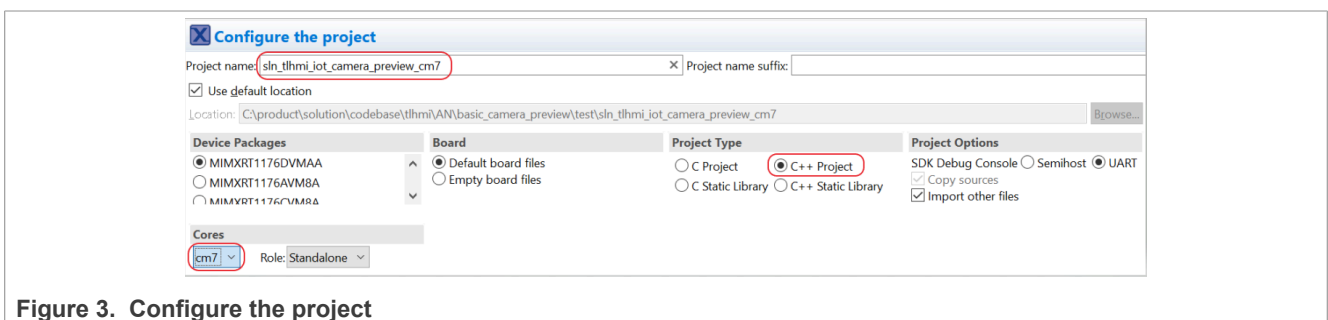

Figure 3. Configure the project
3. Click **Next** to go to the **Configure the project** page (see Figure 3).